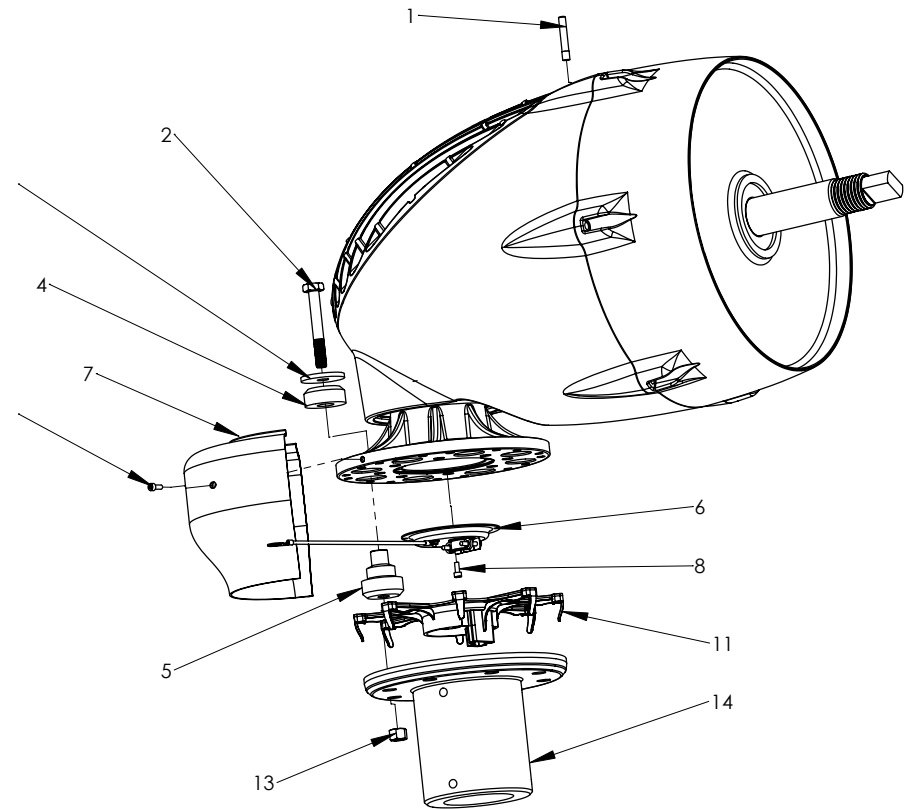

Fig. 12 Yaw and antenna assembly
- Install the vibration isolator halves (items 4 and 5) on the yaw as shown in **Fig. 12**. Note the orientation of the isolator halves is very important – install as shown.
- Insert the vibration isolator bolts and snubbing washers into the vibration isolators from “above” as shown in **Fig. 12**.
- Mount the yaw shield halves using four M5 socket head screws. Refer to **Fig. 12**.